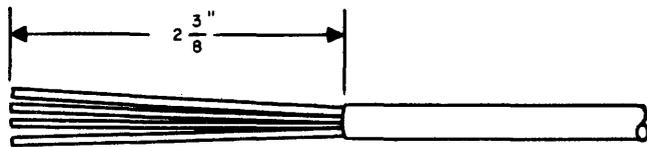

Figure 35. Preparation of Station Wire.
- (c) Prepare the station wire as in Figure 35.